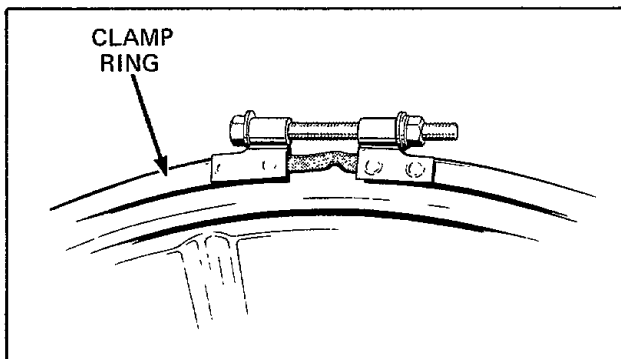

Figure 40
- o. Remove clamp screw, nut, lockwasher and washers holding clamp ring to rear tub head assembly, *Figure 40*.